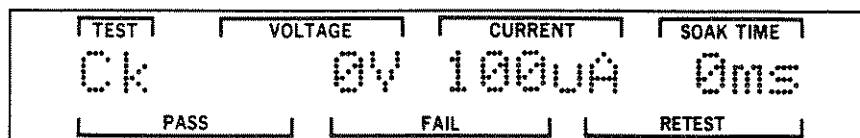

Figure 5-11. Check Test Conditions Screen
STEP 11. Set the Check Voltage to 50 volts. Press the UP pushbutton until the Check Test Conditions screen is displayed. Figure 5-11 is an illustration of this screen.